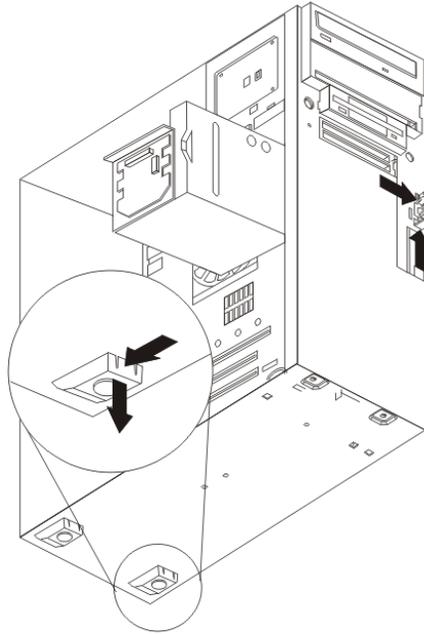

Figure 22: Removing rear server foot
7. Remove the rear server foot (see Figure 22).